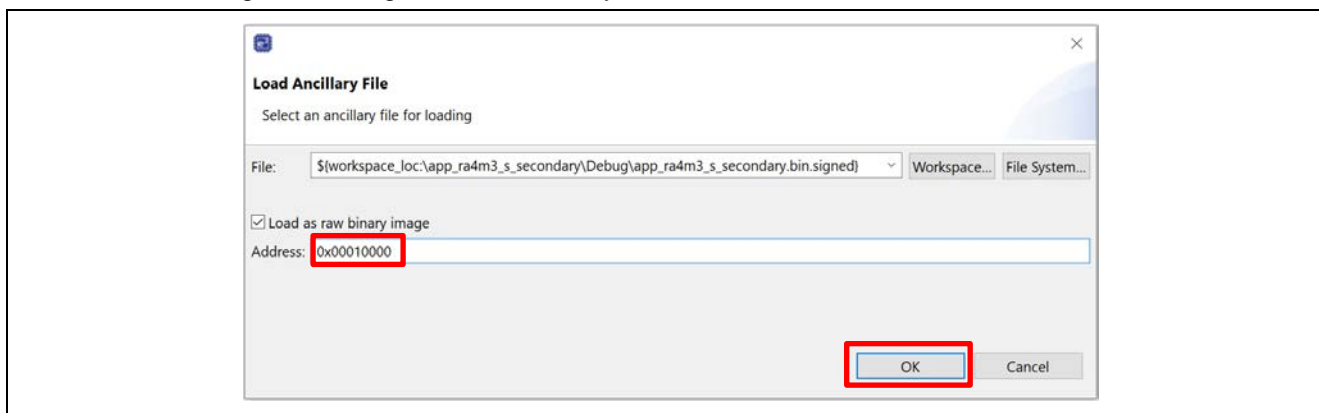
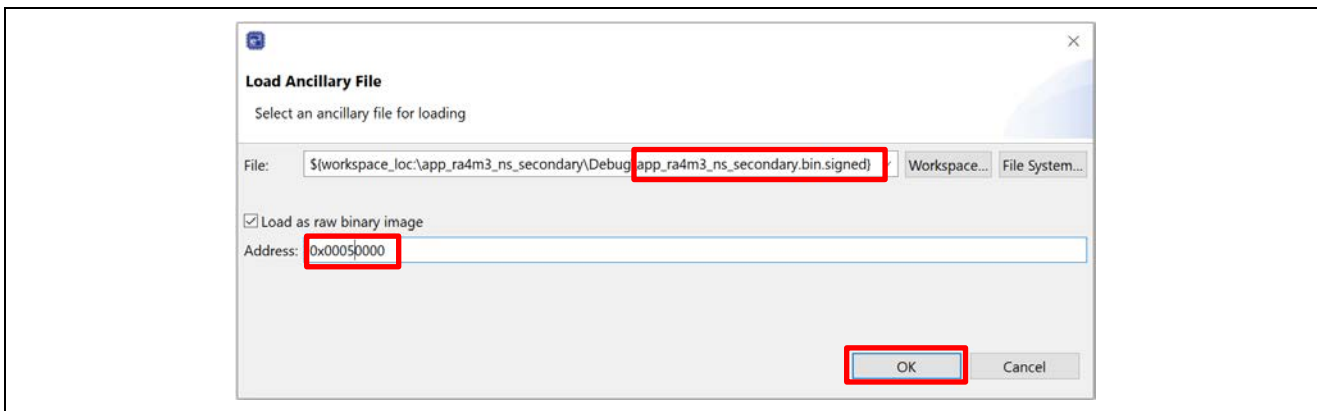

Figure 19. Load the Secondary Secure Application Image for Overwrite Update Mode
Figure 20. Load the Secondary Non-Secure Application Image for Overwrite Update Mode
2. On the top of the e² studio toolbar, click the  Load Ancillary File button to load the new application images as shown in Figure 19 and Figure 20 to the Secondary slot region. Refer to section 3.8 for troubleshooting when using the Load Ancillary File function.
2. Load the secure new application image to the Secondary slot region using the Ancillary loading capability  from the top of the e² studio toolbar in a similar way as Figure 19 except use address 0x20000.
3. Load the non-secure new application image to the Secondary slot region using the Ancillary loading capability  from the top of the e² studio toolbar in a similar way as Figure 20 except use address 0x60000.